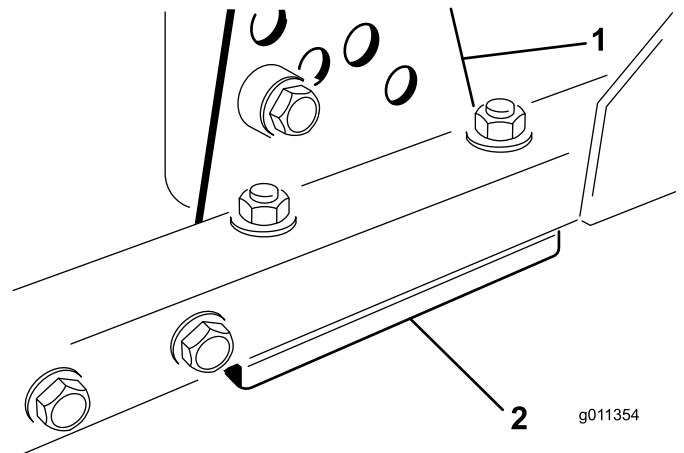

Figure 60
1. Remove the height-of-cut bracket, (front, left, or right) from the deck frame (Figure 60).
2. Adjust 1.5 mm (0.060 inch) shims and/or 0.7 mm (0.030 inch) shim between the deck frame and bracket to achieve the desired height setting (Figure 60).